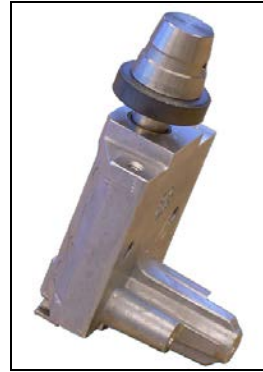

Figure 3-54. Hanger.
15. Remove the Service Fixture, releasing the Hanger. (See Figure 3-54.)